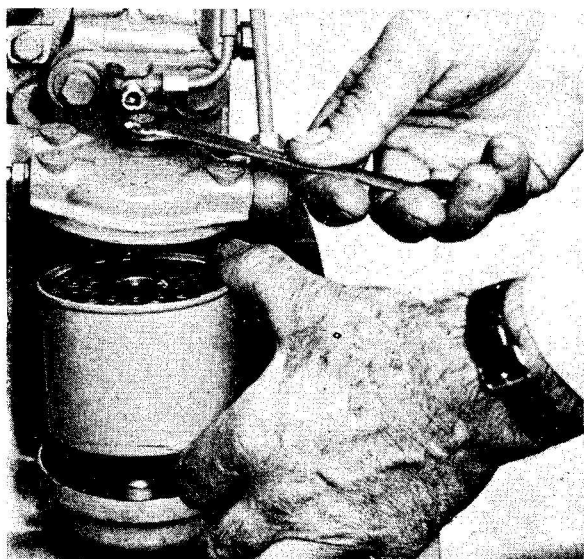

Fig. 3
2. Holding the filter base, unscrew the setscrew in the centre of the filter head and lower the base and filter element (Fig. 3). Discard the filter element.